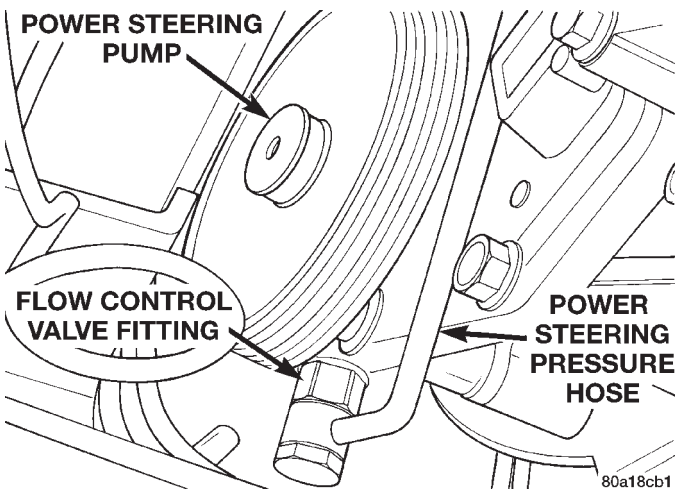

Fig. 13 Power Steering Pump Pressure Fitting
(7) Remove the power steering pressure hose from the pressure fitting on power steering pump (Fig. 13).
(7) Attach the power steering pressure hose to the outlet fitting on the power steering pump (Fig. 13). **Do not tighten the pressure fitting banjo bolt at this time.**
(10) Correctly position the power steering pressure hose banjo fitting at the power steering pump so the power steering pressure hose is not touching any components or the body. While holding the banjo fitting from rotating, tighten the Banjo Bolt (Fig. 13) to a torque of 34 N·m (25 ft. lbs.).